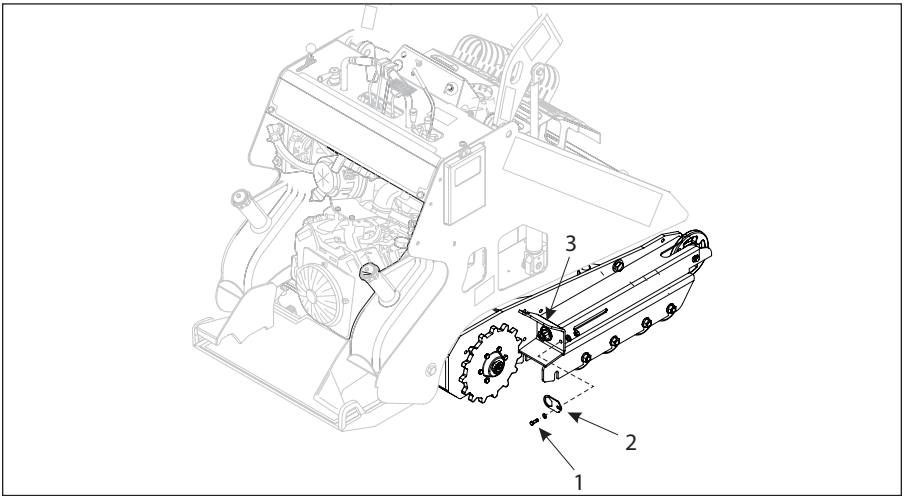

Figure 4-28 Remove Lock Plate
8. Remove track tension lock plate bolt (Item 1, **Figure 4-28**) using a 9/16" wrench
9. Remove lock plate (Item 2, **Figure 4-28**)
10. Loosen track tension by rotating the tension bolt (Item 3, **Figure 4-28**)